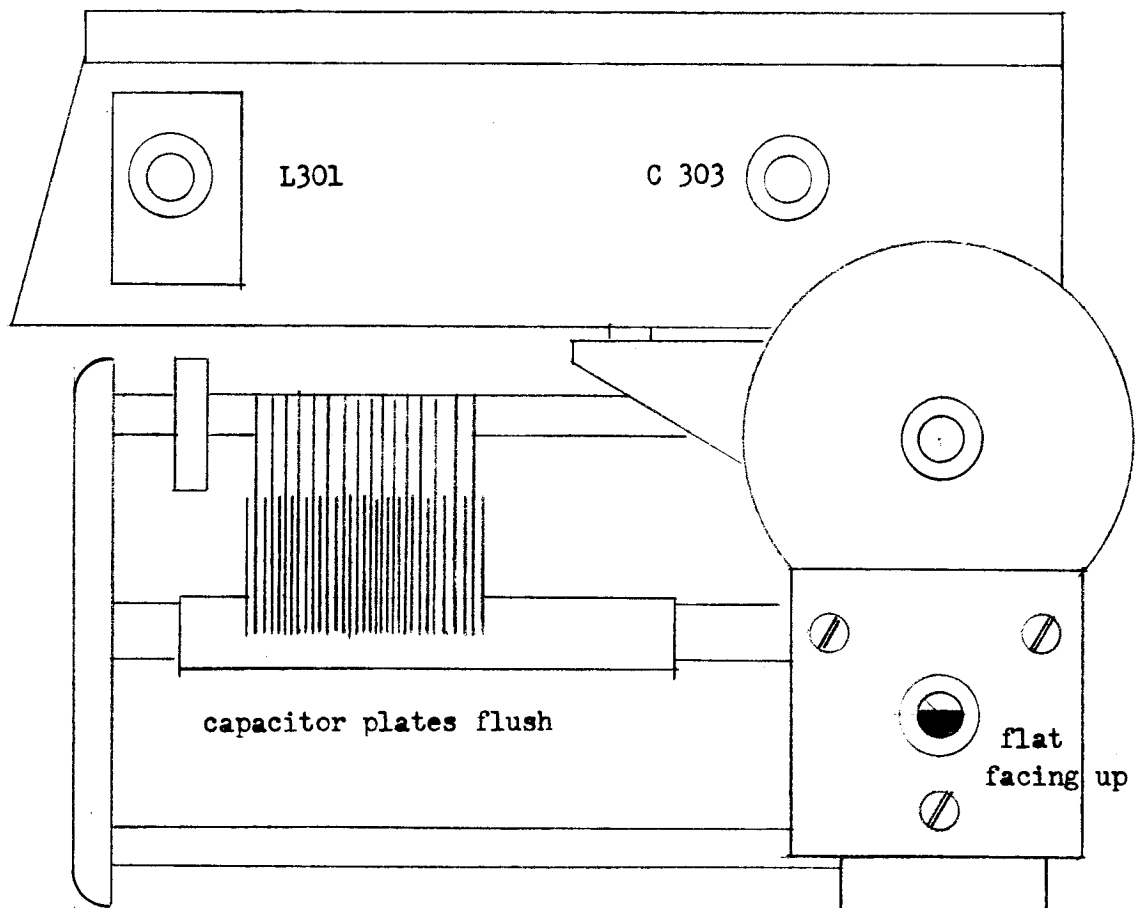

Fig. 1
4. The flat on the bakelite shaft which turns the gearing of the main condenser should face the mounting end of the chassis. (Fig. 1)